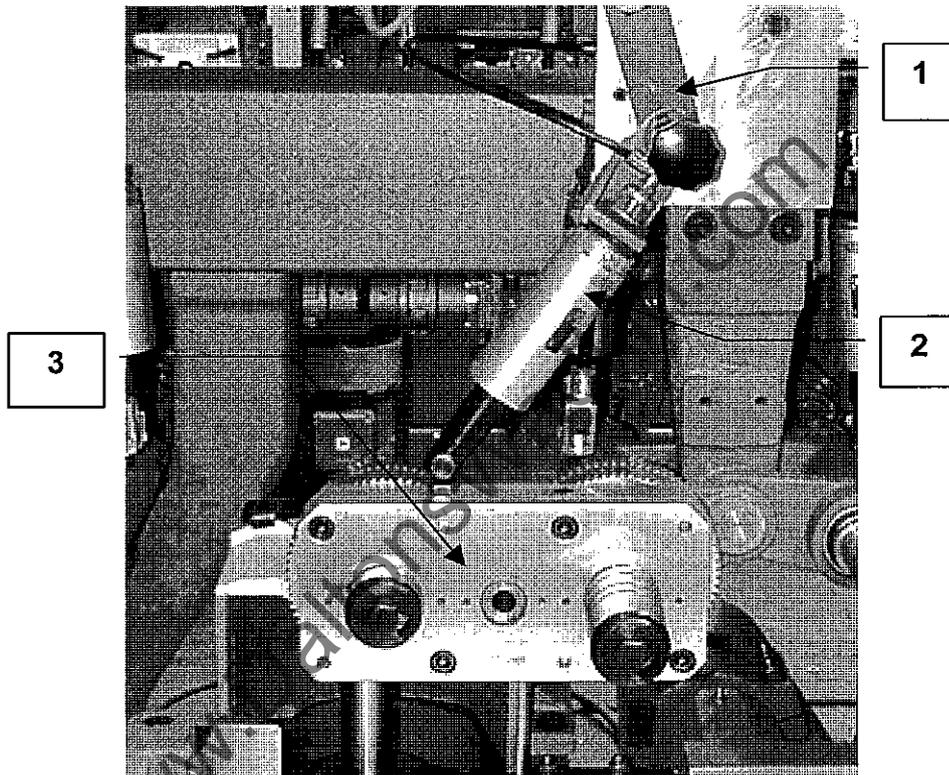

Figure 8.7
8.7 Intermediate Feed Roll (Figure 8.7)